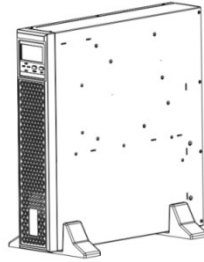

Fig.4-4 Tower installation
Step 3: Place the UPS (and battery cabinet) on the support bases. Each UPS needs two pairs of support bases to install, as shown in Fig.4-4.